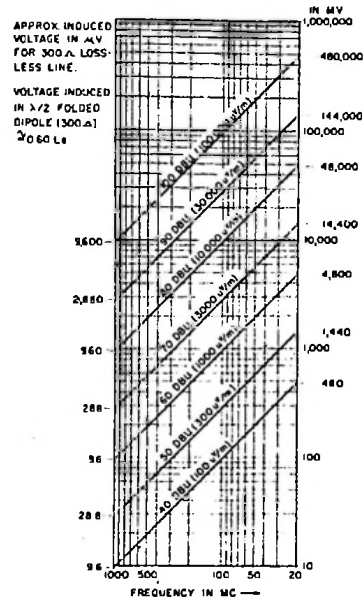

Fig. 2-3. Theoretical Induced Voltage for a 300-ohm Dipole for a Given Field Intensity at a Given Frequency.
The graph of Fig. 2-3 illustrates the theoretical induced voltage across the half-wave dipole receiver antenna terminals for 288 ohm (ordinarily called 300 ohm) line based on equation (7).